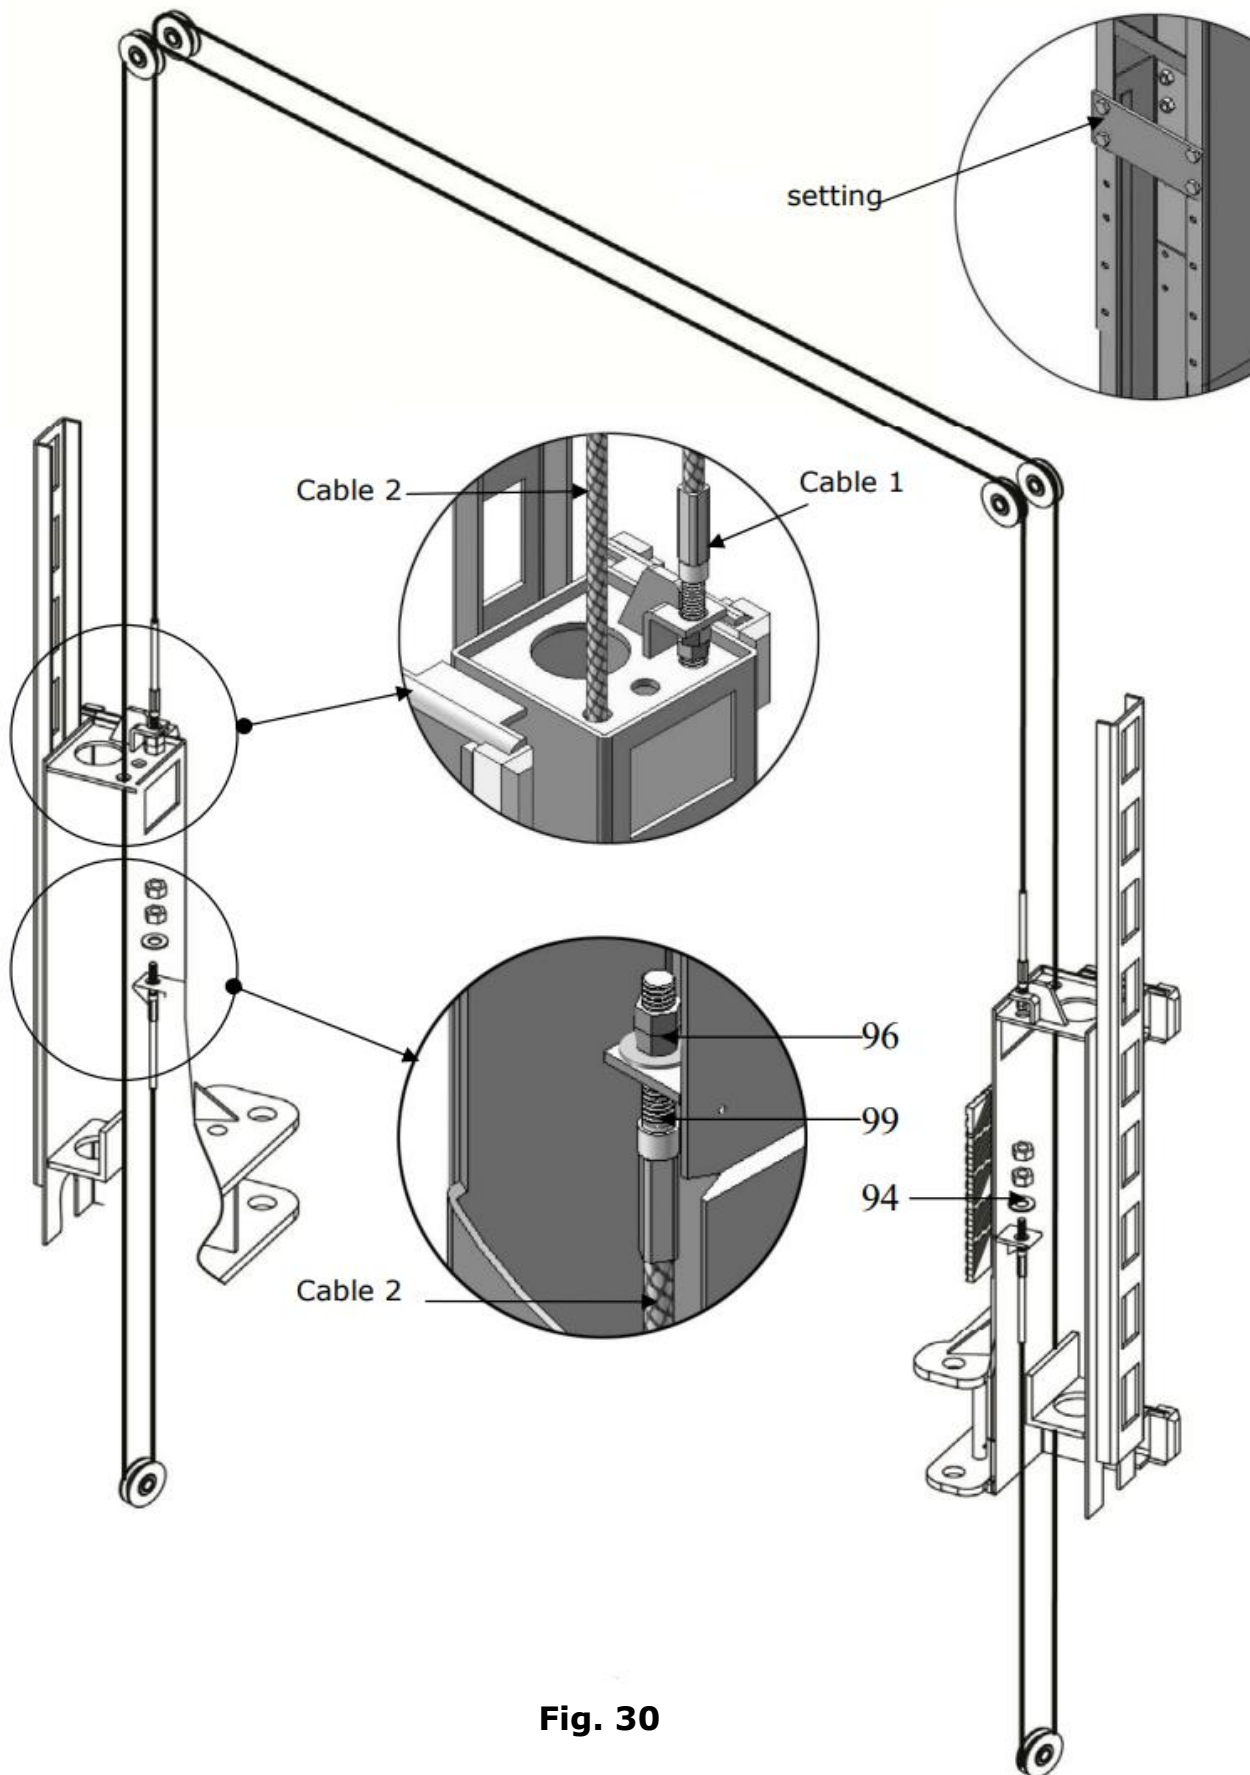

Fig. 30
3. Special low setting cable connection; suitable for ceiling height less than 165 3/8". NOTE: This setting requires purchase of additional cables. (See Fig. 30)